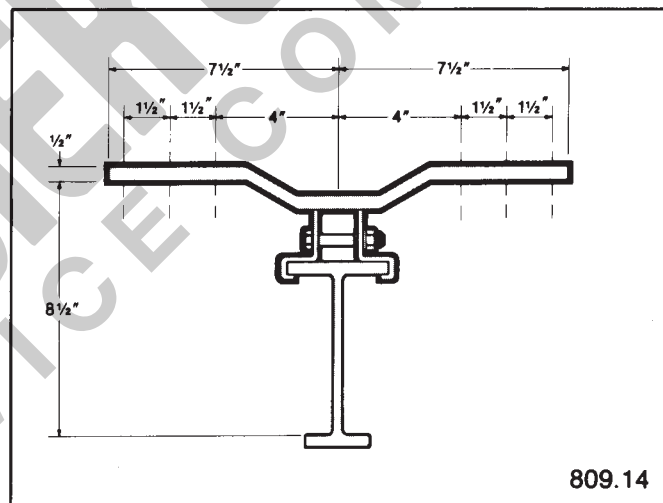

FIGURE 35
- 809.14 (Refer to Figure 35): For up to 8-wire (4-run) dual conductor bottom-entry electrification or 6-wire single conductor bottom-entry electrification at 8½" above operating flange surface of 602.6 *SuperTrack™*.